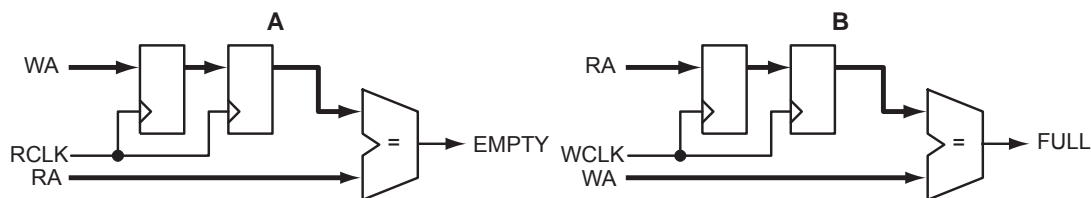

Figure 2-64 • Overflow and Underflow Control
The counter MSB keeps track of the difference between the read address (RA) and the write address (WA). The EMPTY flag is set when the read and write addresses are equal. To prevent underflow, the write address is double-sampled by the read clock prior to comparison with the read address (part A in Figure 2-64). To prevent overflow, the read address is double-sampled by the write clock prior to comparison to the write address (part B in Figure 2-64).